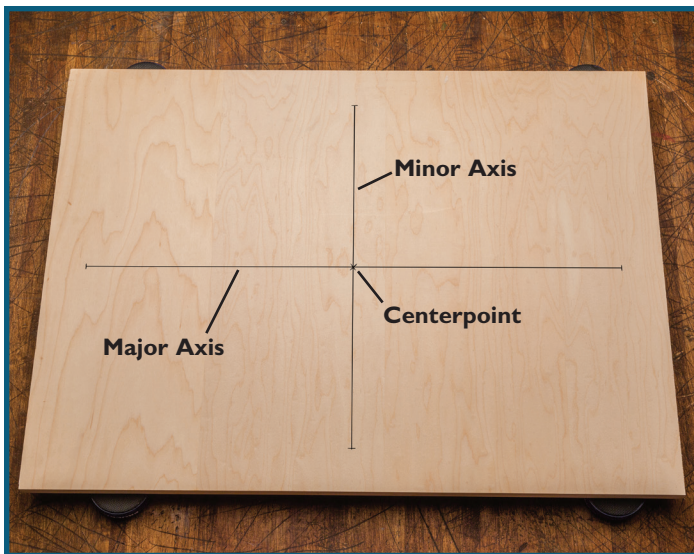

Fig. 1
1. Mark a center point on your workpiece. Lay out the major (long) and minor (short) axes of your ellipse so that they're perpendicular and intersect at the center point. The major axis can be a maximum of 52" long and a minimum of 17½". The minor axis can be a maximum of 44" long and a minimum of 9½". (The maximum difference in length between the major and minor axes is 8".) **Fig. 1.**